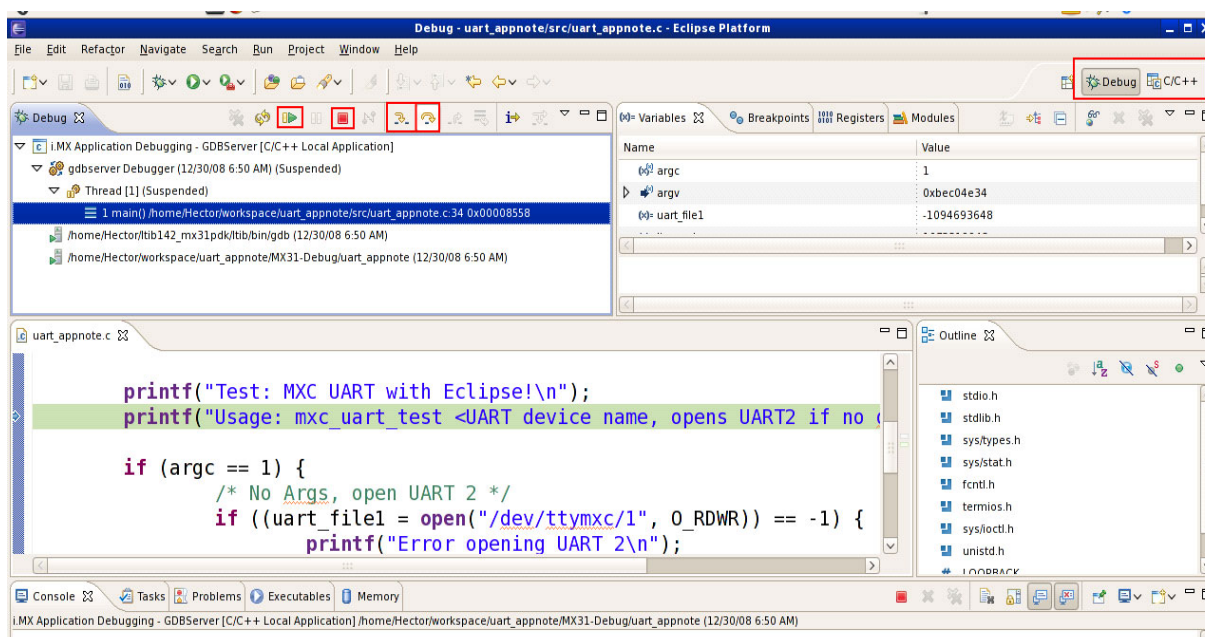

Figure 8. Eclipse Debugging Perspective
3. Check the Remember my decision box and click Yes (the user can switch between the perspectives by clicking the corresponding icons that are located on the top right corner of the Eclipse Platform window as shown in Figure 8).
As the glibc functions (which are accessed from a shared lib binary) are used, these are required to be navigated by stepping over them (by clicking the curved yellow arrow icon shown in Figure 8 or by pressing F6). The user is now only able to step into the functions that are part of their application (by clicking the straight-angle yellow arrow icon shown in Figure 8 or by pressing F5) or applications for which the source code is available.
- The program execution can be resumed by clicking the green play icon highlighted in Figure 8 or by pressing F8.
- The debugging session can be stopped with the red stop button highlighted in Figure 8 or by pressing Ctrl + F2 (this kills the processes associated with the debugging session on the target and host).